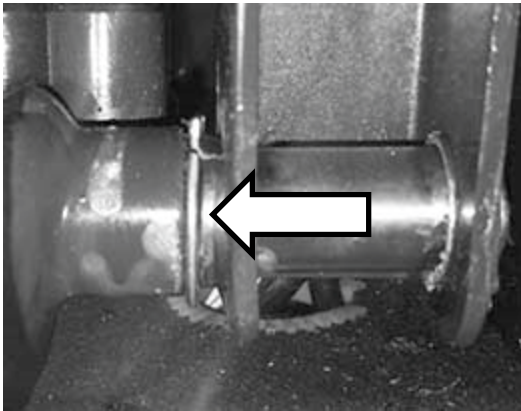

Figure 1B (DU Bearing Separation)
- 2. The DU bearings on the Knuckle Link arm have fallen out of the hole. Reference Figure 1B.